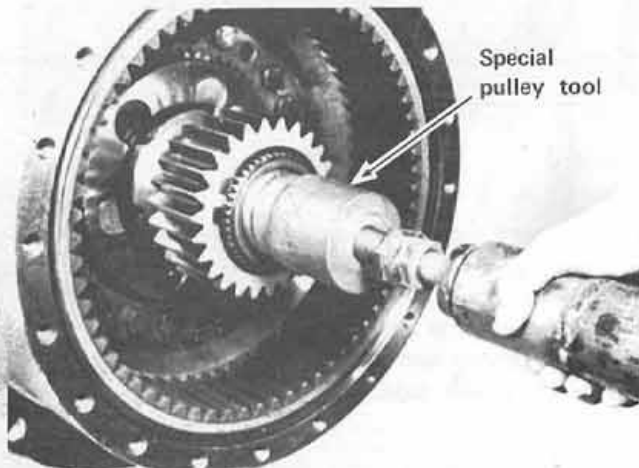

Figure 5
Step 4 Remove the inner planet carrier with the threaded socket puller and puller bolt. A slide hammer may be used to pull assembly. (See figure 5).